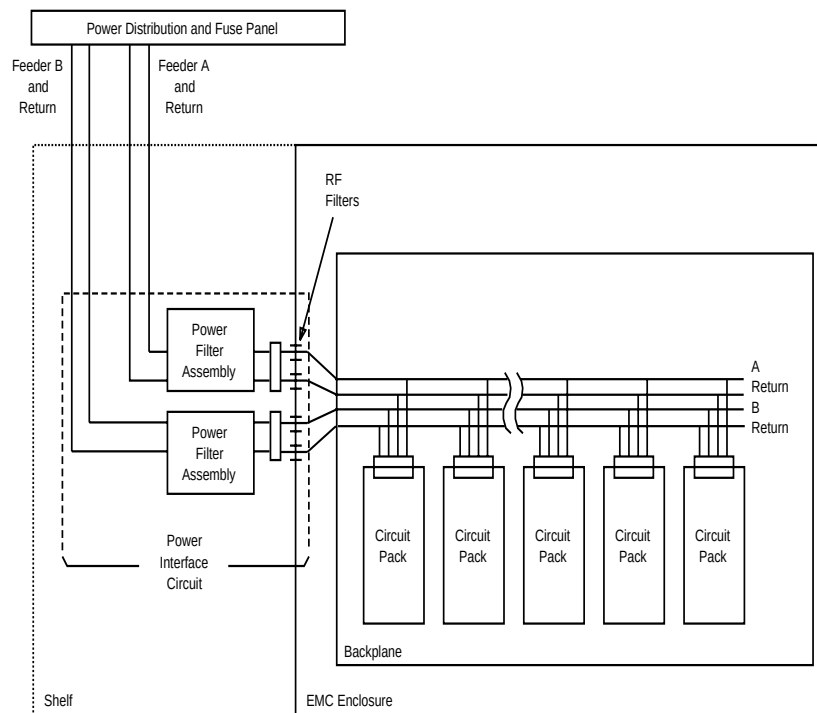

Figure 4-3. Shelf Power Distribution
The two independent –48 volt office power feeders (A and B) enter each shelf via a power interface circuit and are distributed to the circuit packs (Figure 4-3) via the printed backplane. The power interface circuit consists of a green PWR ON LED, two power filter assemblies, and two radio-frequency (RF) filters.